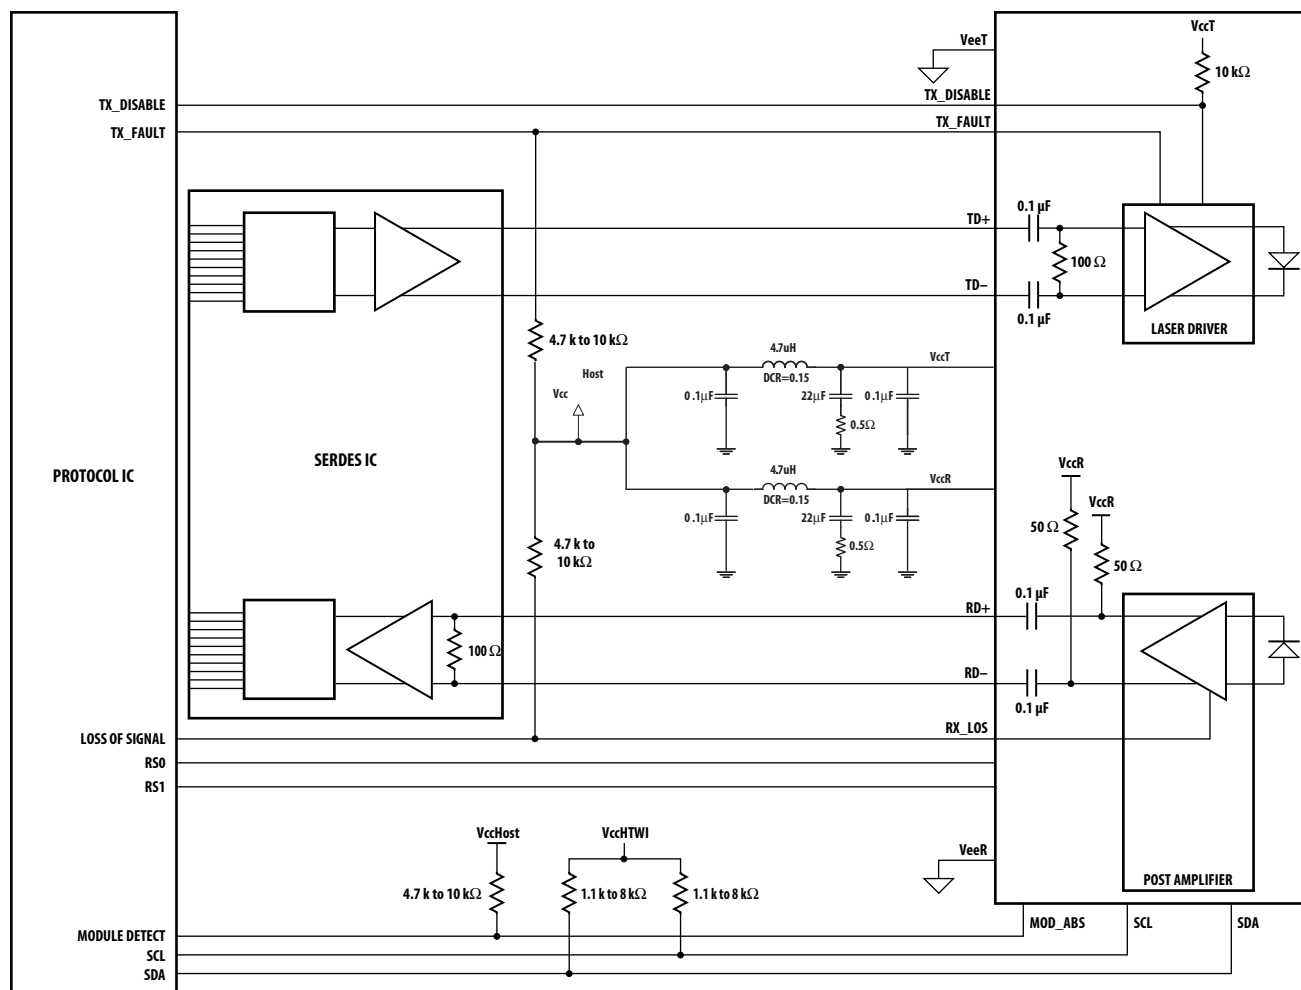

Figure 2. Typical application configuration
Figure 2 depicts the recommended interface circuit to link the AFCT-701SDZ to supporting physical layer ICs. Timing for the dedicated SFP+ control signals implemented in the transceiver are listed in Figure 6.
2. This is an open collector/drain output that on the host board requires a 4.7 k Ω to 10 k Ω pullup resistor to VccHost. See Figure 2.